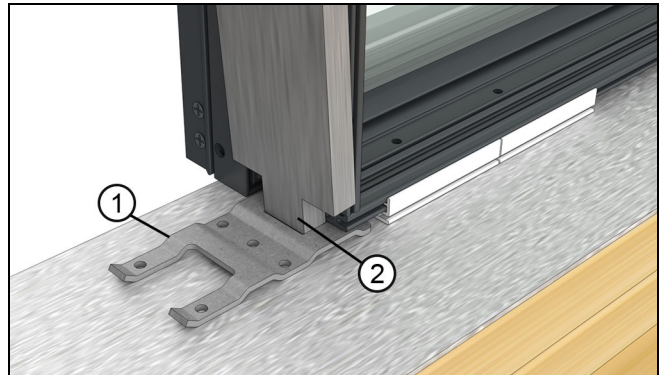
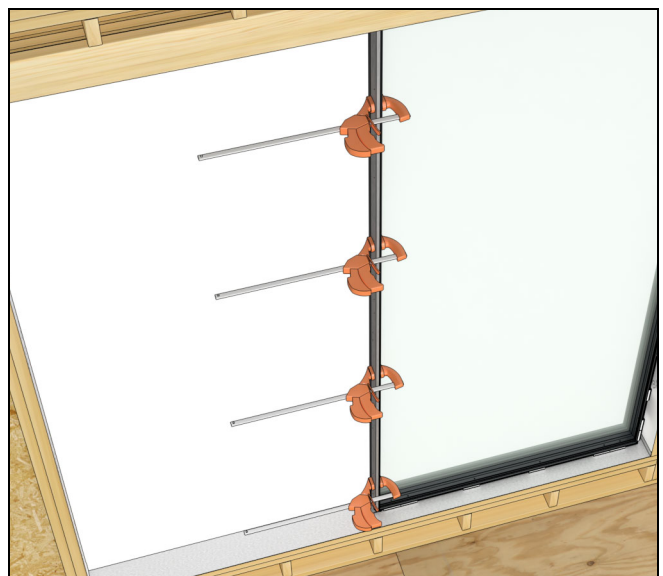

Figure 11
Figure 13
5. Position the steel tight against the step in the frame and so the tab on the mull steel fits in the hole in the sill bracket. Then clamp the steel to the frame. See Figure 11, Figure 12 and Figure 13.